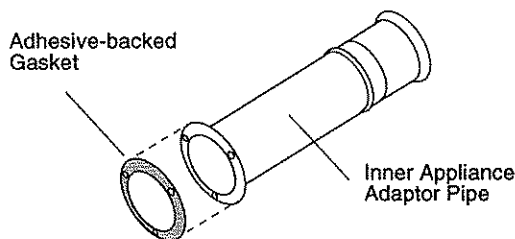

Figure 24. Attach the gasket to the Inner Adaptor.
1. Attach the adhesive-backed gasket (located in the parts bag) to the flat flange of the Inner Adaptor Pipe. Fig. 24. If you need to use the Restrictor Plate, attach the gasket to that plate and install the plate, gasket-side down, under the Inner Adaptor Pipe. See Figs. 7 and 9 to determine if you need to install the Restrictor Plate.